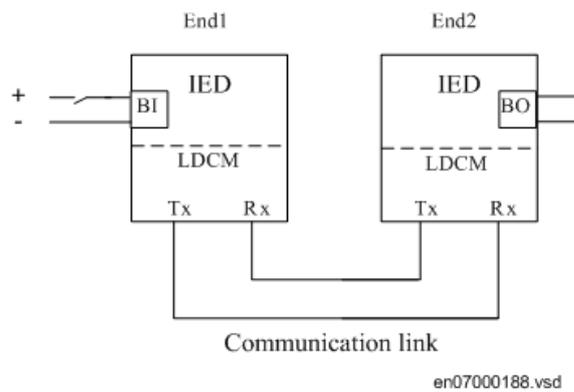

Figure 81: Test of RTC with I/O
A test connection is shown in figure 81. A binary input signal (BI) at End1 is configured to be transferred through the communication link to End2. At End2 the received signal is configured to control a binary output (BO). Check at End2 that the BI signal is received and the BO operates.